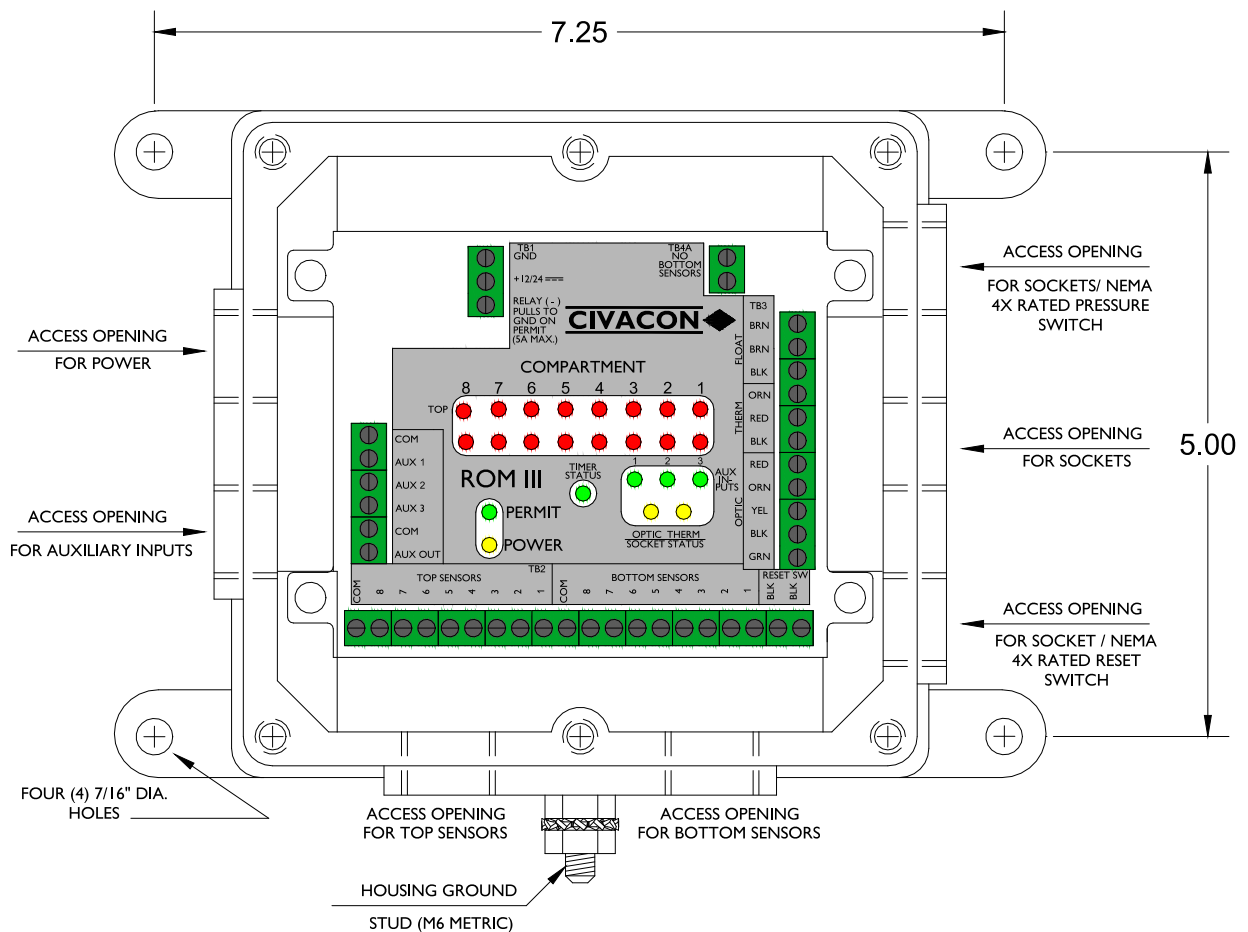
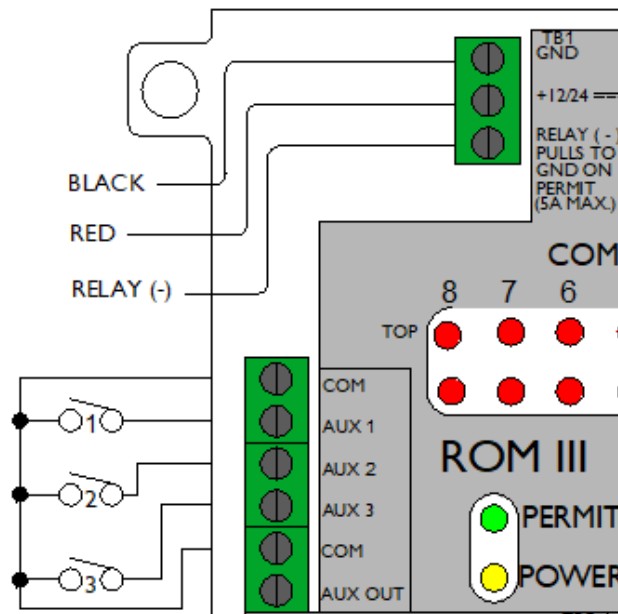
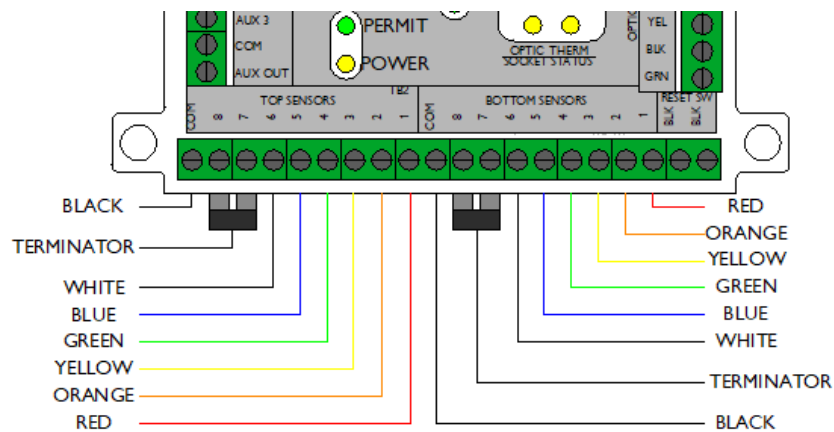

Figure 1: Mounting / Wire Entry – Models 3308-3308 & 3308R-3308
Figure 3: Power and Auxiliary Wiring
Figure 4: 6 Compartment Wiring
The CIVACON Onboard Monitor has four (4) flanges with holes, at the base of its cast aluminum housing, used for mounting the enclosure. These are provided so that it may be securely bolted to a grounded metal portion of the trailer that will provide an excellent physical support to the monitor. Locate the monitor in an area that is visible to the operator near the sockets and bottom loading adapters. The holes on the enclosure are 5/16 inch diameter. Refer to Figure 1 & 2 for dimensional mounting information. Mounting dimensions are given in inches. To protect the electronics in the housing, keep the monitor lid on the enclosure until you are ready to wire the monitor. The housing provides seven (7) 1/2" NPT access holes (refer to Figure 1 & 2). These holes provide for easy wiring access to the desired locations of the monitor. The three (3) holes on the right side of the monitor are used for wiring to the sockets and reset switch. The two (2) located on the left side of the monitor are used for wiring the 12/24 volt power and auxiliaries. The holes along the bottom are used for the overfill (top) and retain (bottom) sensors. Any holes that are not used should be properly sealed with pipe plugs, provided with the enclosure. Once the housing is installed, you are ready to remove the cover frame, gasket, and window; and begin the wiring procedure.
All wiring entering the monitor must enter through the appropriate access openings shown in Figure 1. Use weather tight strain reliefs or liquid-tight fittings to keep out external moisture. The use of weather tight strain reliefs with the sensor and socket housings is also imperative for a moisture resistant system. We require the use of a high quality stranded and tinned copper wire with a minimum thickness of 20 gage and min. temperature wire insulation greater than 70 °C for all electrical connections to the monitor. Trim about ¼" of the insulation off the end of each wire that will be connected to the terminal strips of the monitor. Insert the trimmed wire into its appropriate slot on the terminal strip and tighten the screw on top of that slot. Ensure that NO strands of wire have separated from the connection that could cause a potential short with an adjacent terminal. Due to the vibrations that can occur on a trailer, it is extremely important to double check all wiring connections for good mechanical integrity. The proper color code of the wires will save time and money on the installation and on any troubleshooting, which may be required in the future. CIVACON Model 2300 cable (Part # 97701) is a seven (7) conductor or Model 7215-7215 (Part # 97702) is a ten (10) conductor color coded cable which is highly recommended for use with the installation of CIVACON ROM III overfill prevention equipment. CIVACON also makes a Model 2100 cable (Part # 97750) that is a five (5) conductor color coded cable which may be used with the socket installations.
safety switch and fuse in an equipment cabinet on the trailer. It is recommended that the power be switched off when not in use (i.e.- When servicing the electrical system or when driving the vehicle). The wires from the power source should only enter the OBM enclosure via the proper access opening, which is the upper left hand opening (refer to Figure 1)
The sensors must be wired according to Figure 3 or 4. The wires from the sensors should enter the OBM enclosure via the proper access opening (refer to Figure 1). See the Figure 3 or 4 diagrams for a complete sensor system wiring diagram. CIVACON has a full color wall chart that is available for the standard ROM III system. Please contact the factory for a copy. If you are replacing or installing on a truck or trailer with 6 compartments or less use the 6 compartment wiring in Figure 3. If you are installing or replacing on a truck or trailer with more than 6 compartments use 8 compartments wiring in Figure 4.
Access openings are provided at the OBM so that each type of socket used may have its own access connection only if the auxiliary inputs are not used. If the auxiliary inputs are used, use the convention shown in Figure 1. It combines the Thermistor and Float outputs into one cable exit. This convention is not required but will help in troubleshooting and tracing the system output if a problem should occur. Cross reference the CIVACON part number of the socket to its proper wiring diagram and connect accordingly. Please use the CIVACON Instruction Sheet H50200PA, which is packaged with each socket, for additional reference information on the sockets.